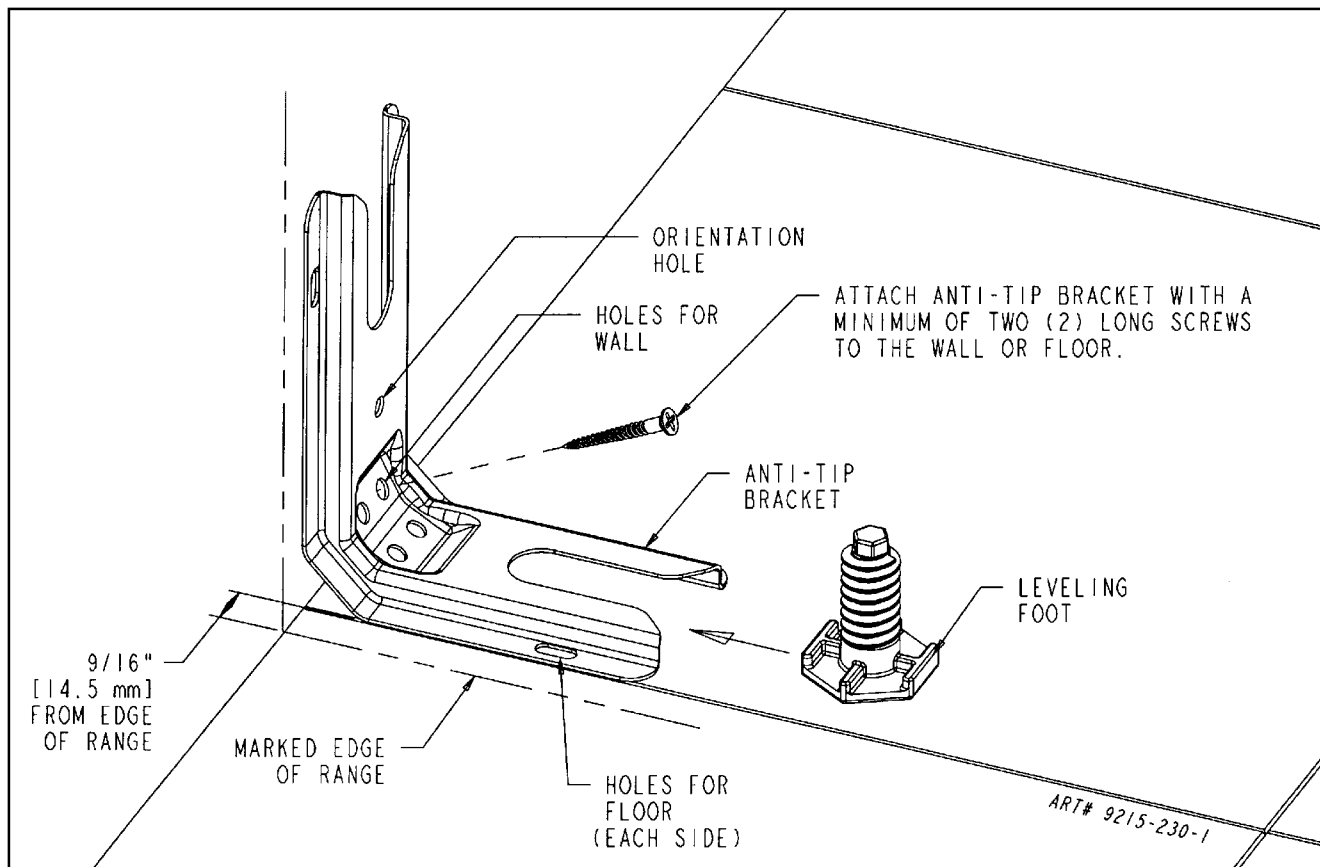
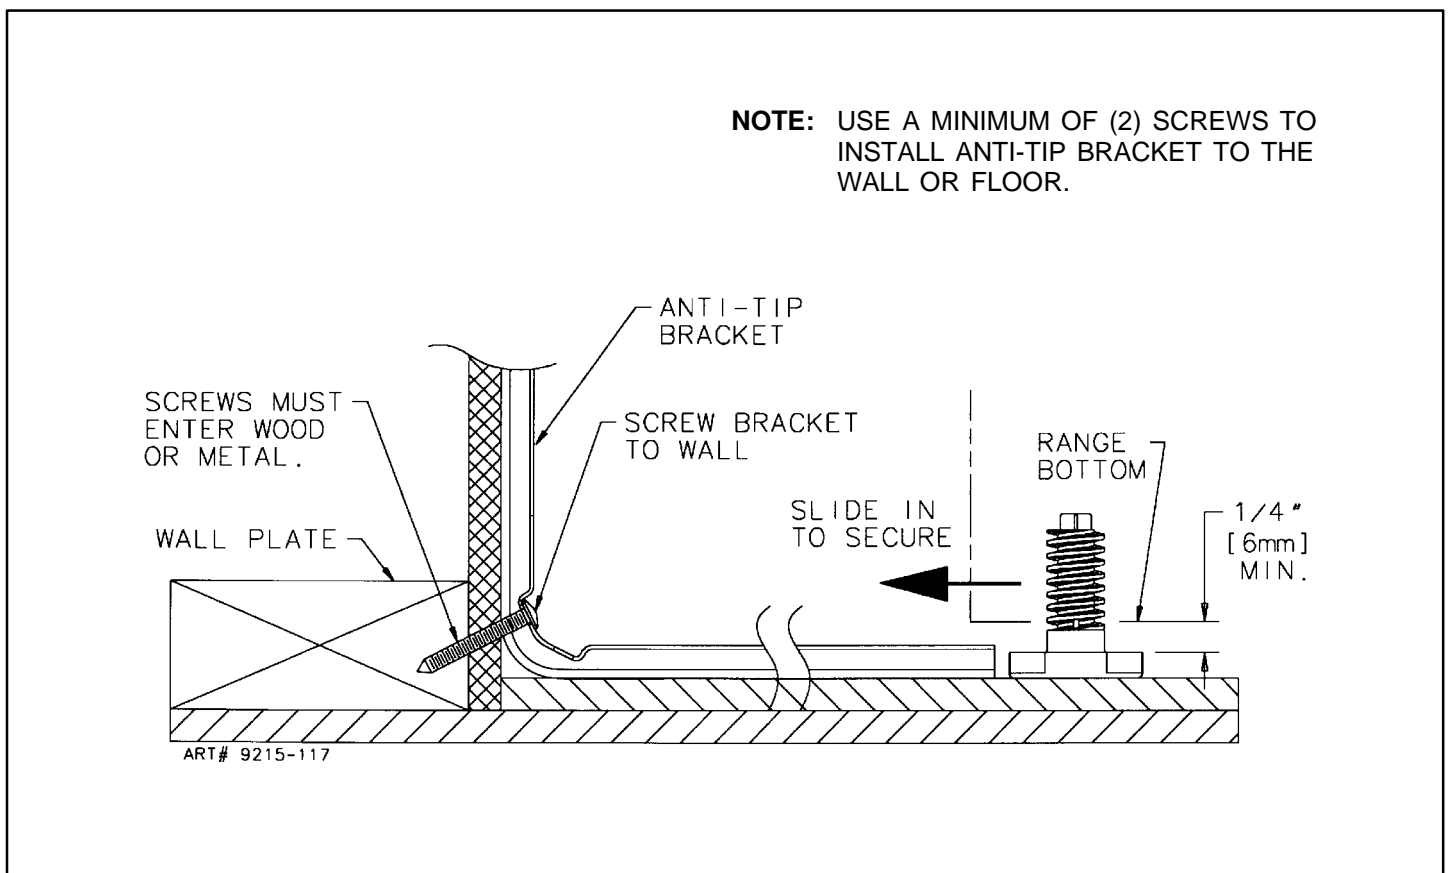

FIGURE 3
FIGURE 4
## STEP 1 - Locating The Bracket (See Figure 3)
- Place the BRACKET 9/16" (14.5 mm) from the marked "EDGE" toward center of opening and against the back wall, as shown in figure 3, with orientation hole against wall.
- Use the bracket as a template and mark the required holes, as shown in figure 3 for the type of construction you will be using.
- Floor:** Locate the center of the two holes identified in figure 3 as "HOLES FOR FLOOR". Drill a 1/8" (3 mm) pilot hole in the center of each hole (a nail or awl may be used if a drill is not available). Secure the ANTI-TIP bracket to the floor with the two screws provided. Proceed to Step 3.
- Wall:** Locate the center of the two holes identified in figure 3 as "HOLES FOR WALL". Drill an angled 1/8" (3 mm) pilot hole in the center of each hole as shown in figure 4. (A nail or awl may be used if a drill is not available). Secure the ANTI-TIP bracket to the wall with the two screws provided as shown in figure 4. Proceed to STEP 3.
- Suitable screws for concrete construction can be obtained at the hardware store. Drill the required size hole for the hardware obtained into the concrete at the center of the holes identified in figure 3 as "HOLES FOR FLOOR". Secure the ANTI-TIP bracket to the floor. Proceed to STEP 3.
**Note:** A minimum clearance of 1/4" (6mm) is required between the range and the leveling foot that will engage the anti-tip bracket, (see figure 4).